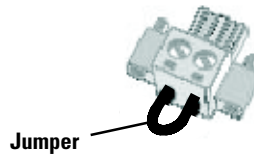

Figure 22. REPO Connector
2. Verify that the REPO connector installed on the rear of the UPS has its jumper installed, as shown in Figure 22.